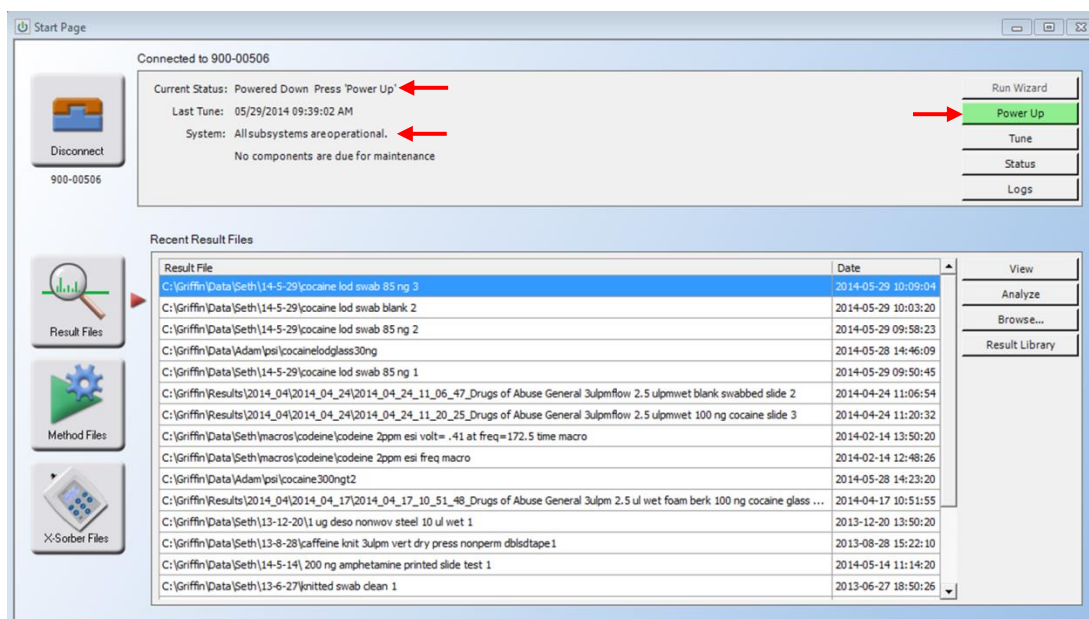

Figure 1.7 – AI-MS power-up/status window
4. Connect the instrument by pressing the “Connect” icon in the upper-left corner of the start page screen. The system is successfully connected when the current status is labeled as “ready” and all subsystems are operational (Figure 1.7).